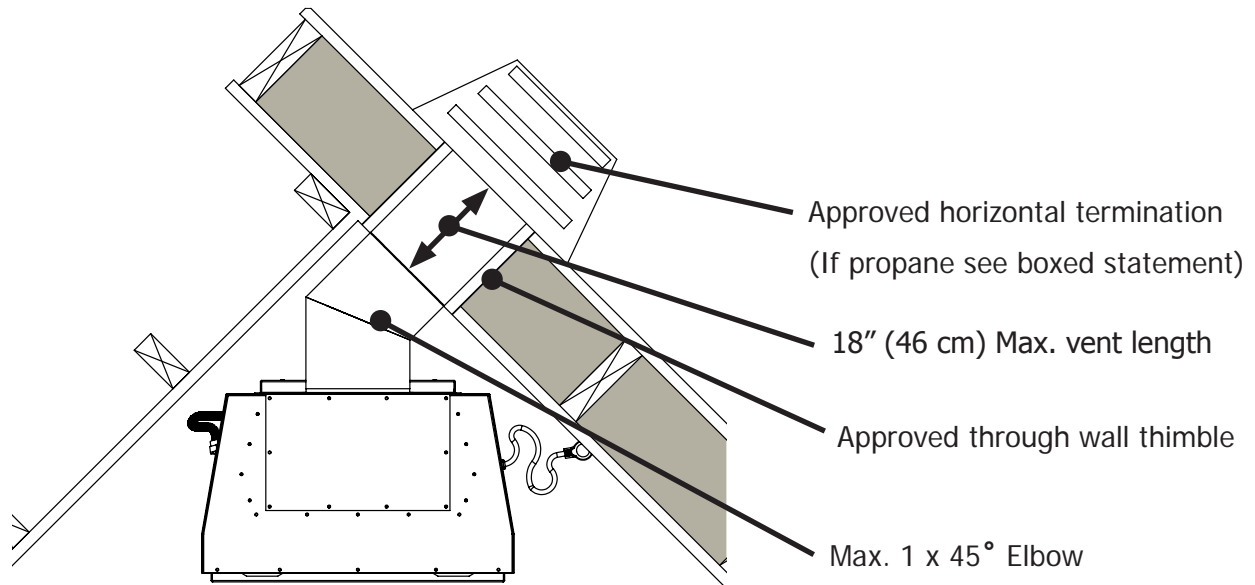

Figure 38. Corner Rear Vent - No Vertical Rise
The Q1CII can be installed in rear vent applications with no vertical rise* within the parameters as shown in Figures 38 and 39.
Step 1: Using a T20 screwdriver remove the vent collar, base plate, cover plate and 4" exhaust spigot (28 screws total) as shown in Figure 38. The vent collar, base plate, and 4" exhaust spigot will no longer be used.